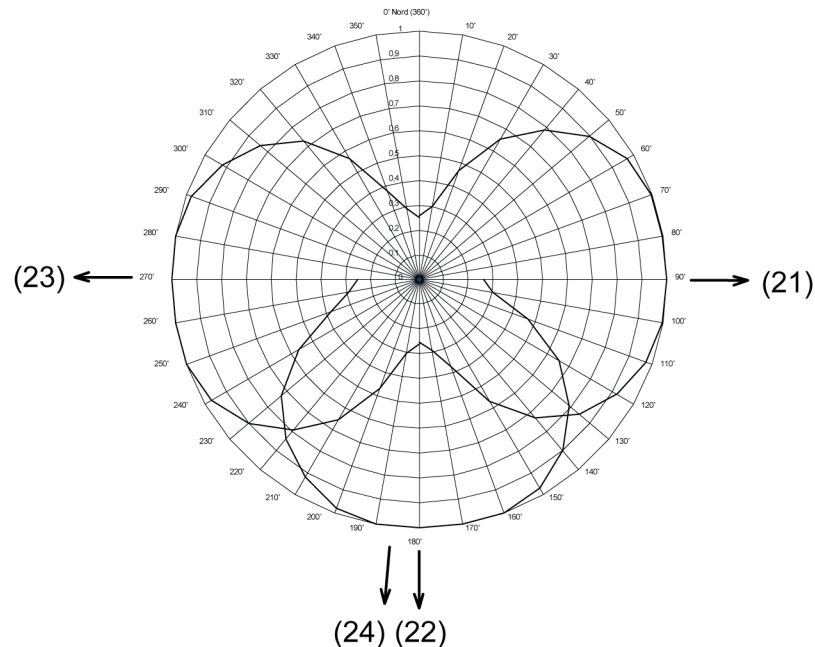

Figure 13: Circular chart for brightness detection
To detect twilight, a separate linear sensor is built in that determines the illumination from the direction of brightness sensor 2 (24). The measurement range covers from 0 to 674 lux, and is sent via a 2-byte object. In order to display the current illumination, the measured value can be sent when there is a settable difference relative to the measurement range upper range value. Cyclic sending of the values is also possible. Two settable limiting values are available, for each of which the weather station can transmit switching telegrams when they are exceeded or undershot. There is the option of setting these limiting values internally and permanently, or externally and variably, for example using visualisation software. The settings for the limiting values and the hysteresis is the same for all analog sensors of the weather station. This is described in detail in the section "Limiting value settings".(figure 13)